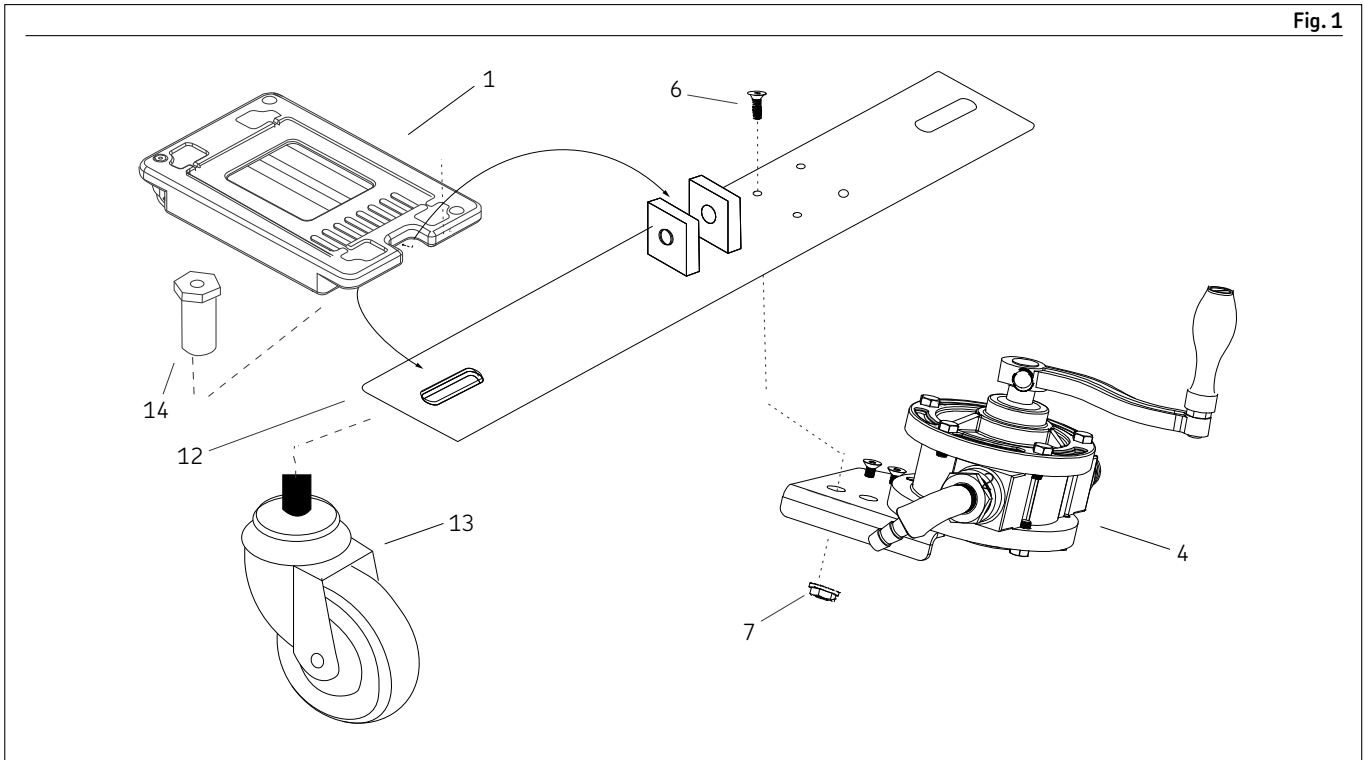
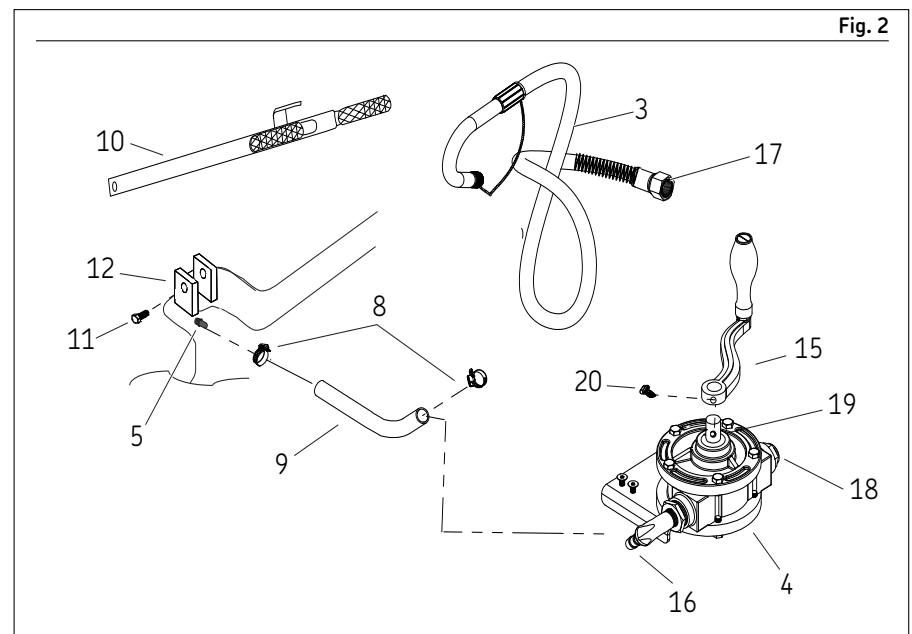

Fig. 1
Fig. 2
- 1 Remove contents from inside of reservoir (1).
- 2 Remove hand pump (4) from box.
- 4 Refer to Fig. 1 and remove one of locknuts (14) from caster (13) that holds drain bracket (12).
- 11 Tighten nuts (7) onto bolts (6).
- 12 Position reservoir mounting bracket (12) under reservoir (1) and align slot of reservoir mounting bracket (12) with hole of reservoir (1).
- 13 Insert caster (13) into mounting slot of reservoir (1).
- 14 Install locknut (14) into top of reservoir hole (1) and onto caster (13).
- 16 Refer to Fig. 2 and position handle (10) in slot of mounting bracket (12).
- 17 Insert bolts (11) into holes of reservoir mounting bracket (12) and threaded holes of handle (10).
- 18 Connect end of reservoir hose (9) to fitting (16) on hand pump (4).
- 15 Tighten both locknuts (14).
- 19 Place hose clamp (8) over reservoir hose (9) and connection (16) on hand pump (4).
- 5 Remove caster (13).
- 6 Loosen other locknut (14) but do not remove locknut (14).
- 7 Pull bracket (12) away from reservoir (1).
- 8 Refer to Fig. 1 and place bracket of hand pump (4) under drain bracket (12).
- 9 Install bolts (6) through drain bracket (12) and into pump bracket (4).
- 10 Install serrated nut (7) on each bolt (6).